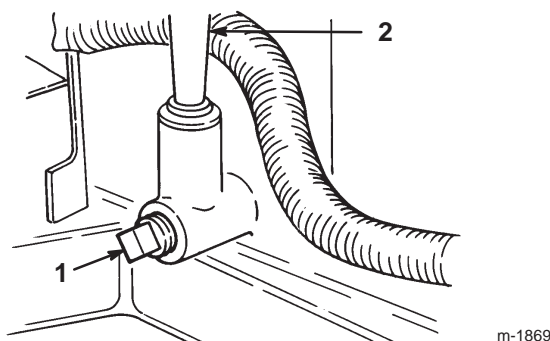

Figure 14
- Place a drain pan below the oil dipstick/fill tube and remove the drain plug (Fig. 14).